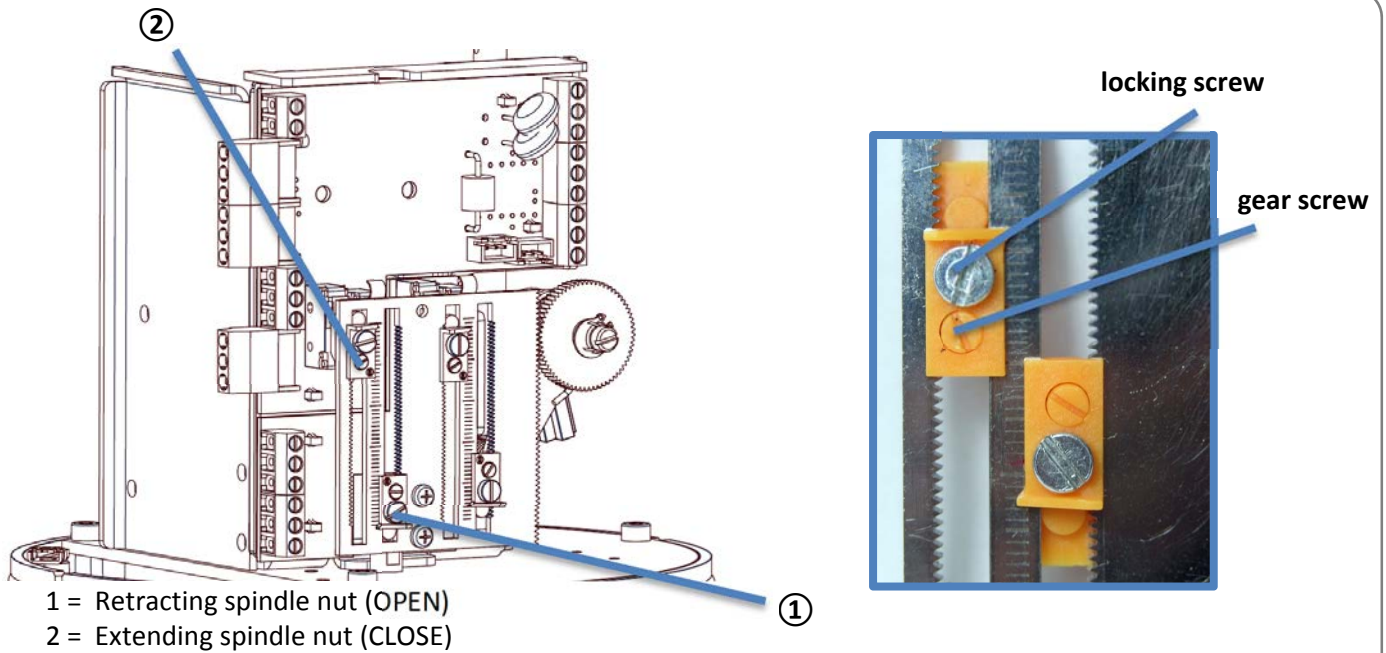

Figure 7: Adjusting switching cams
- Slacken-off the fixing screw on the corresponding switching cam (Fig. 7), move the cam towards the limit switch until it clicks, and re-tighten the fixing screw.
- Unlock the fixing screw ① on the corresponding switching cam (Fig. 7), use the gear screw ② to move the cam towards the limit switch until it activates, and re-tighten the locking screw.
- Unlock the fixing screw on the corresponding switching cam (Fig. 7), move the cam towards the limit switch until it clicks, and re-tighten the fixing screw.
- Unlock the fixing screw on the corresponding switching cam (Fig. 7), move the cam towards the limit switch until it activates, and re-tighten the fixing screw.